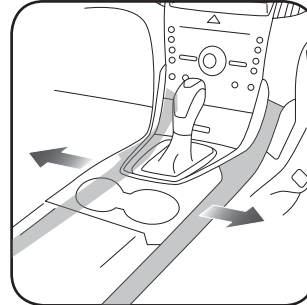

Fig. 1.1
1. Using a panel tool, carefully pry outward on the center console trim panels. (Fig. 1.1)